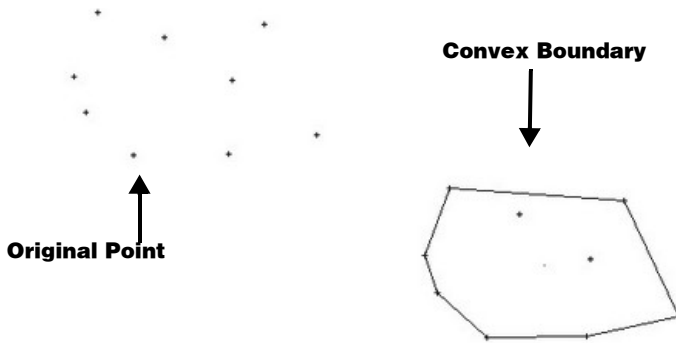
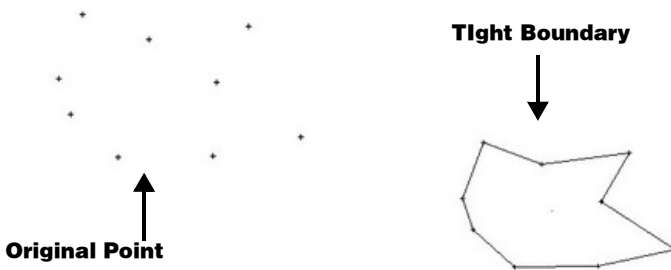
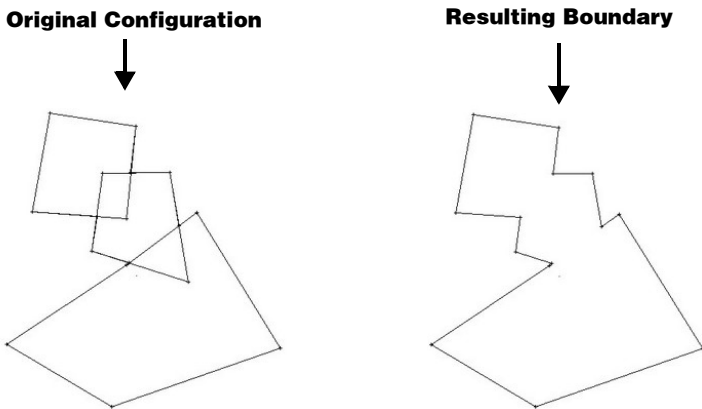

Figure 14-85. Convex Boundary Created to Enclose Extents of the Data
Figure 14-86. Tight Boundary Enclosed to Form a Shrink Wrap of Points
Figure 14-87. Continuous Boundary Shrink Wraps Selected Points/Entities
Use the Create Enclosing Boundary command to create a boundary which encloses a given set of points. The following methods are available to create an enclosed boundary: (Figure 14-85 and Figure 14-86 on page 14-68) and Figure 14-87 on page 14-69.
- Tight Boundary – creates a boundary passing through each of the outer points selected, thus forming a shrink wrap of the points (Figure 14-86).
- Continuous Boundary – shrink wraps the selected points and entities to form a continuous boundary along the outer edges of the selection (Figure 14-87 on page 14-69).